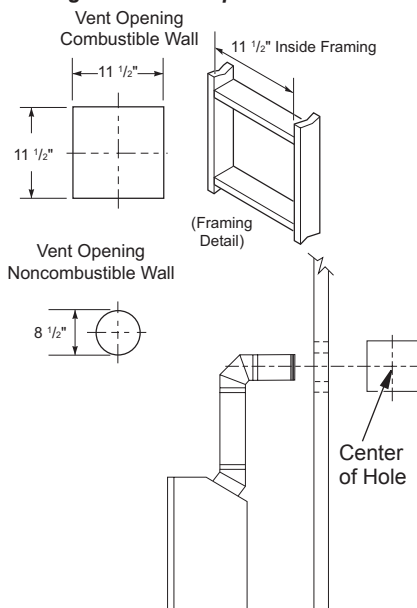
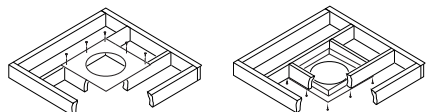

Figure 9 - Vent Opening Requirements
Figure 20 - Installing Firestop
5. Carefully determine location where vent pipe assembly will penetrate the outside wall. The center of hole should line up with center line of horizontal vent pipe. Mark wall for a 11 1/2" x 11 1/2" square hole. Cut and frame the square hole in exterior wall where vent will be terminated. If wall being penetrated is constructed of noncombustible material, such as masonry block or concrete, a 8 1/2" hole with zero clearance is acceptable (see Figure 9).
1. Cut a 11 1/2" square hole in ceiling using locating hole as a center point. Opening should be framed to 11 1/2" x 11 1/2" inside dimensions, as shown in Figure 9 on page 9 using framing lumber the same size as ceiling joists. If area above the ceiling is an insulated ceiling or an attic, nail firestop from top side. This prevents loose insulation from falling into required clearance space. If area above ceiling is a living space, install firestop below framed hole. Firestop should be installed with no less than 3 nails per side (see Figure 20).
3. Cut a hole in roof using locating hole as a center point. (Cover any exposed open vent pipes before cutting hole in roof.) The 11 1/2" x 11 1/2" hole must be measured on the horizontal; actual length may be larger depending on pitch of roof. There must be a 1" clearance from vent pipe to combustible materials. Frame opening as shown in Figure 9, page 9.